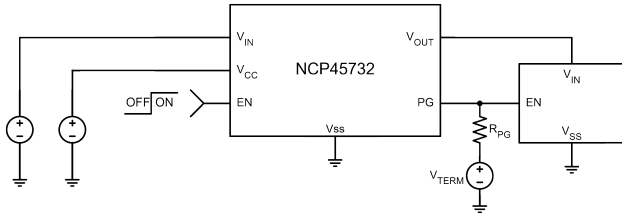

Figure 27. Guaranteed-by-Design Power Sequencing Example
The NCP45732 device has a power good output (PG) that can be used to indicate when the gate of the MOSFET is fully charged. The PG pin is an active-high, open-drain output that requires an external pull up resistor, R_{PG} , greater than or equal to 100 kΩ to an external voltage source, V_{TERM} , that is compatible with input levels of all devices connected to this pin, as shown in Figure 27.
The power good output can be used as the enable signal for other active-high devices in the system, as shown in Figure 27. This allows for guaranteed by design power sequencing and reduces the number of enable signals needed